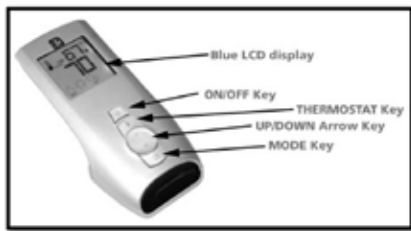
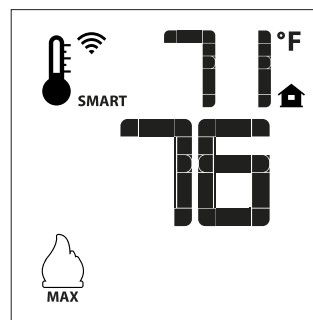
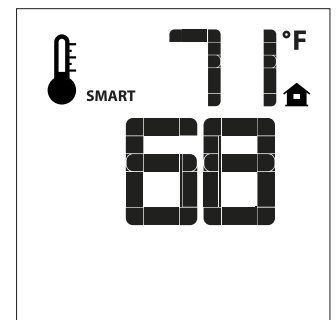

Figure 1 - Proflame Transmitter
Figure 6 - Smart Flame Function
Figure 7
The Proflame Transmitter uses a streamline design with a simple button layout and informative LCD display (Fig. 1).
A Mode Key is provided to Index between the features and a Thermostat Key is used to turn on/off or index through Thermostat functions (Fig. 1 & 2).
Press the ON/OFF Key on the Transmitter. The Transmitter LCD display will only show the room temperature and Icon (Fig. 7). At the same time the Receiver disconnects the thermopile from the gas valve millivolt coil and the appliance burner turns off. A single "beep" from the Receiver confirms reception of the command.
The Remote Control can operate as a room thermostat. The thermostat can be set to a desired temperature to control the comfort level in a room. To activate this function, press the Thermostat Key (Fig. 1). The LCD display on the Transmitter will change to show that the room thermostat is "ON" and the set temperature is now displayed (Fig. 5). To adjust the set temperature, press the Up or Down Arrow Keys until the desired set temperature is displayed on the LCD screen of the Transmitter.
The Smart Thermostat function adjusts the flame height in accordance to the difference between the set point temperature and the actual room temperatures. As the room temperature gets closer to the set point the Smart Function will modulate the flame down. To activate this function, press the Thermostat Key (Fig. 1) until the word "SMART" appears to the right of the temperature bulb graphic (Fig. 6). To adjust the set temperature, press the Up or Down Arrow Keys until the desired set temperature is displayed on the LCD screen of the Transmitter (Fig. 7).
If the appliance is equipped with a hot air circulating fan, the speed of the fan can be controlled by the Proflame system. The fan speed can be adjusted through six (6) speeds. To activate this function use the Mode Key (fig.1) to index to the fan control icon (Fig. 8). Use the Up/Down Arrow Keys (Fig.1) to turn on, off or adjust the fan speed (Fig. 9). A single “beep” will confirm reception of the command.
The auxiliary function controls the AUX power outlet on the Fan Control Module. To activate this function use the Mode Key (fig. 1) to index to the AUX icon (fig. 10 & 11). Pressing the Up Arrow Key will activate the outlet. Pressing the Down Arrow Key will turn the outlet off. A single “beep” will confirm the reception of the command.